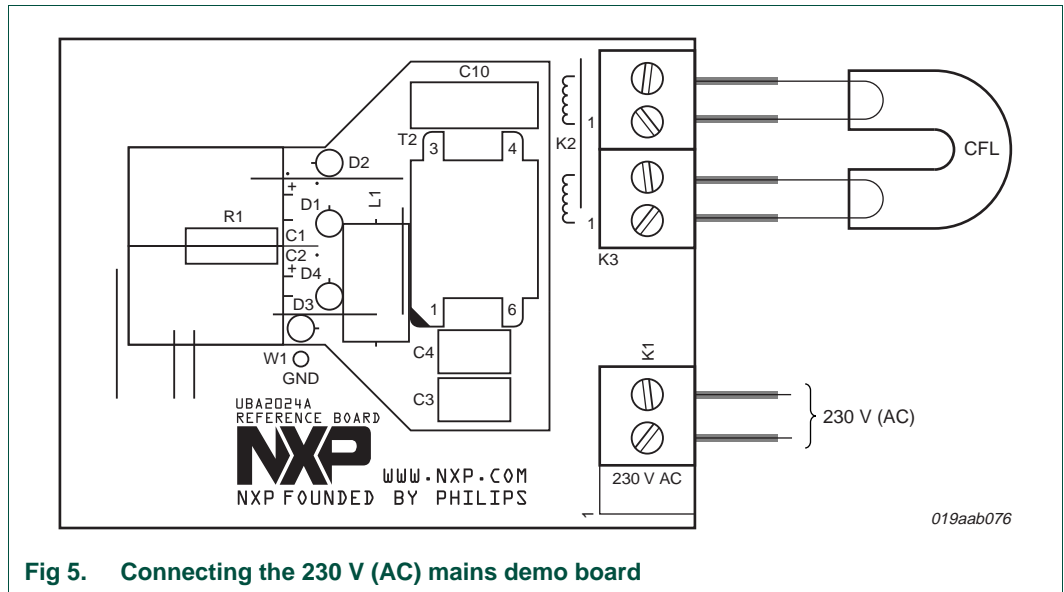
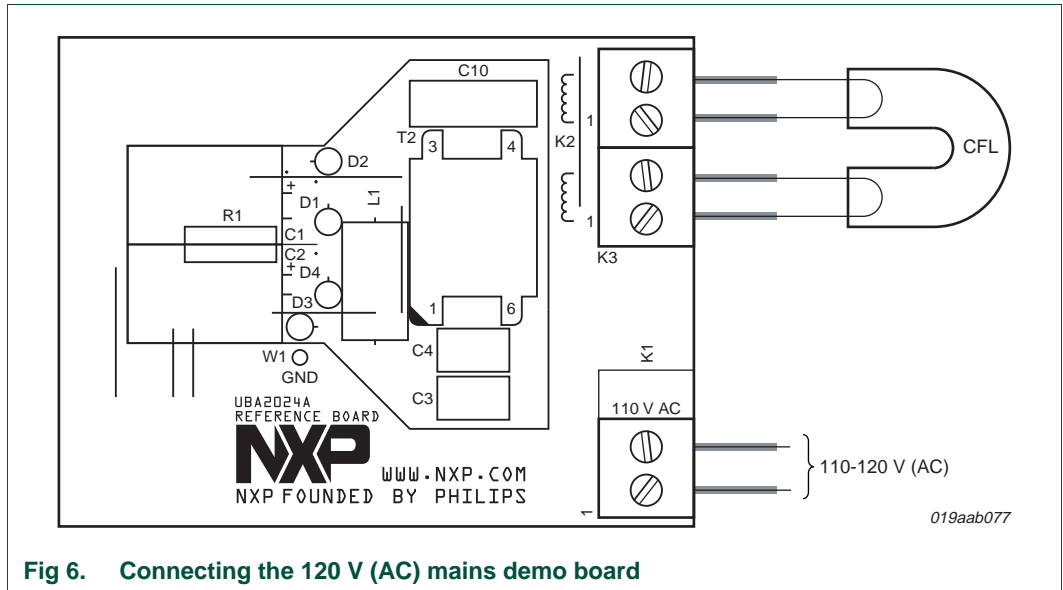

Fig 5. Connecting the 230 V (AC) mains demo board
Fig 6. Connecting the 120 V (AC) mains demo board
The connection to the lamp is very straight forward as the Figure 5 and Figure 6 show. The board has been designed to accommodate layouts for 120 V (AC) or 230 V (AC) line voltages. An ordered board is preset for a certain line voltage. The labeling on the board for the mains voltage connector has been designed in such a way that the correct line voltage label becomes visible when the two way screw terminal block for the mains voltage is soldered to the proper position.
Figure 5 shows how to select a different lamp inductor. The inductor can be set for 2.1 mH (default setting on delivery for the 18 W lamp), 2.7 mH, and 3.1 mH. The saturation current for the 2.1 mH inductor setting is 1.1 A at 125 °C ambient.